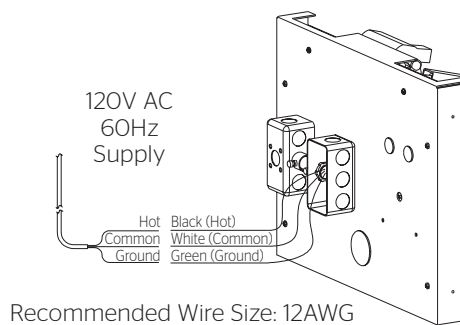
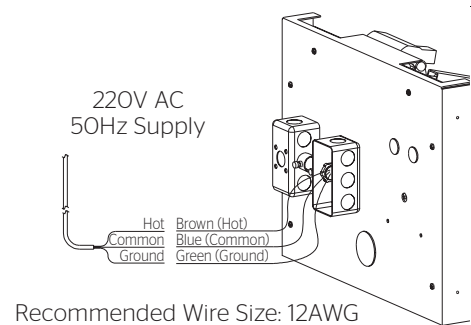

Figure 15
Figure 16
14. Use a licensed electrician to wire the Da-Lift. See Figure 15 (120 volt) or Figure 16 (220 volt). Plug the power supply into the receptacle of the Da-Lift.